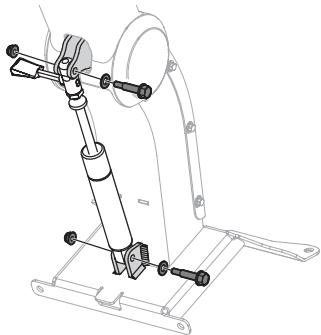

Figure 8
4. While holding steering wheel column in a raised position, use other hand to place tilt locking cylinder, aligning holes in top and bottom of cylinder with holes in cylinder mounting plates on the underside of the steering wheel column and the top of the column support bracket (Figure 8).
5. Working from right to left, install flat washers and shoulder screws through holes aligned in Step 4 and secure with hex flange lock nuts. Torque shoulder screws to 120-144 in-lbs (14-16 N-m) (Figure 8).